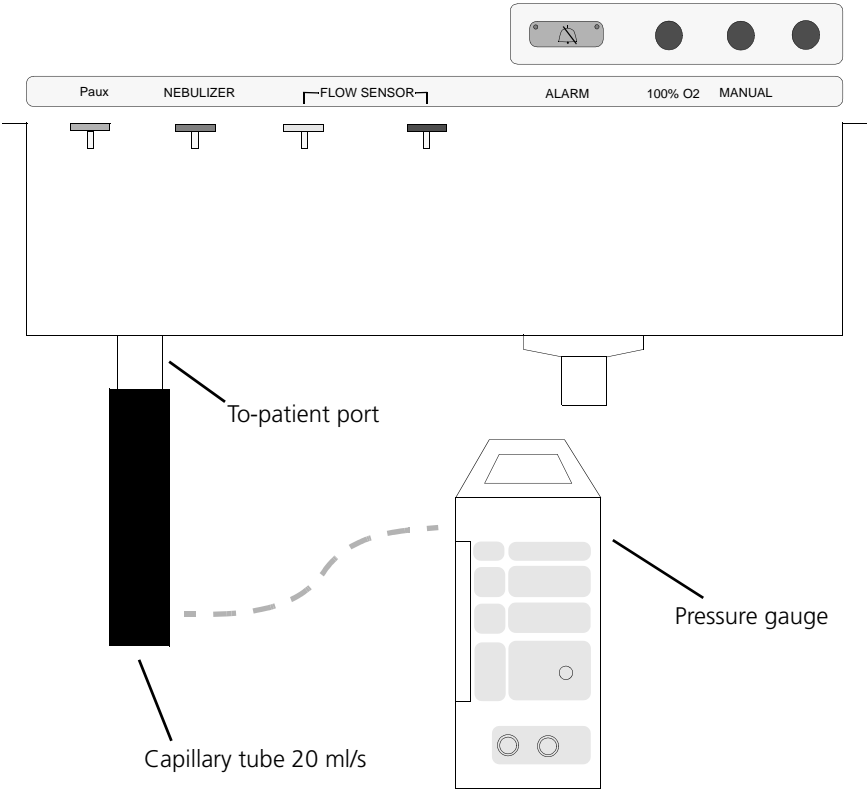

Figure 10-32. Setup for the inspiratory-valve airtightness check
1. Connect the 20 ml/s capillary tube and the pressure gauge as shown in Figure 10-32 below.